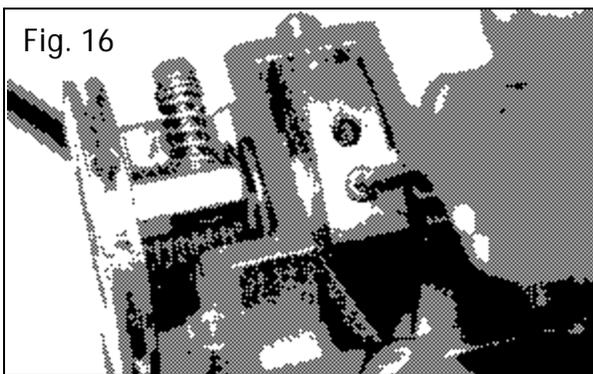

Fig. 16
- Install slide into carburetor body and make sure slide moves freely and will completely close with it's own weight. Use a drop of BLUE Loctite 242 or equivalent (medium strength) on the 4-40 torx screw and attach the slide actuator strip to the inner wheel. When tightening screw, place a small flat blade screwdriver between the slide strip and carburetor body. See Fig. 16. This will prevent the slide strip from twisting.